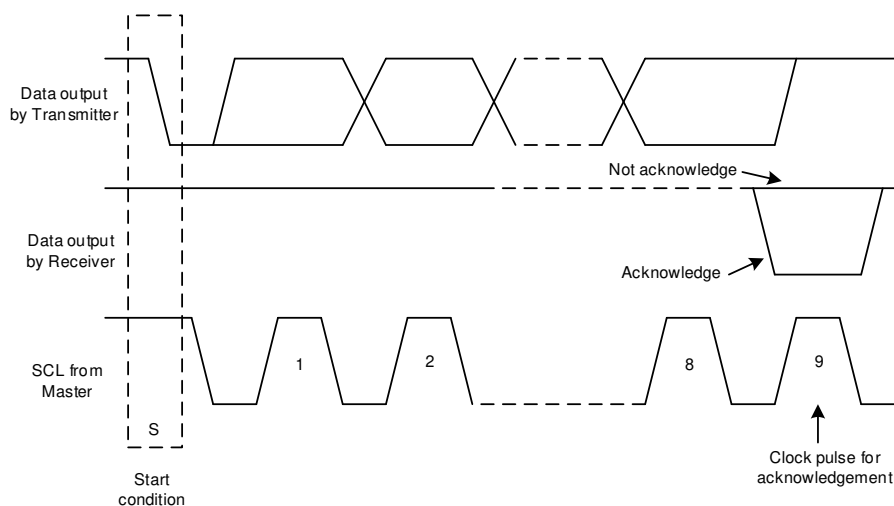
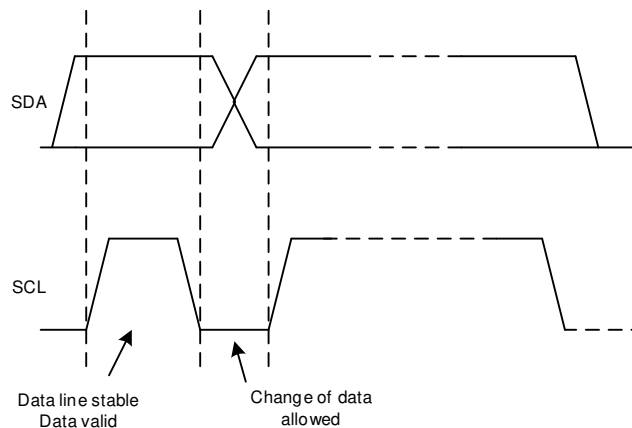

Figure 59. Acknowledge and Not Acknowledge on the I²C Bus
Figure 61. Bit Transfer on the I²C Bus
Other than specific timing signals, the I²C interface works with serial bytes. At the end of each byte, a ninth clock cycle generates and detects an acknowledge signal. Acknowledge is when the SDA line is pulled low during the high period of the ninth clock cycle. A not-acknowledge is when the SDA line is left high during the high period of the ninth clock cycle as shown in Figure 59.
2. The master then generates the SCL pulses, and transmits the 7-bit address and the read/write direction bit (R/W) on the SDA line. During all transmissions, the master makes sure that data are valid. A valid data condition requires the SDA line to be stable during the entire high period of the clock pulse, as shown in Figure 61. All devices recognize the address sent by the master and compare it to their internal fixed addresses. Only the slave device with a matching address generates an acknowledge by pulling the SDA line low during the entire high period of the ninth SCL cycle, as shown in Figure 59 by pulling the SDA line low during the entire high period of the ninth SCL cycle. Upon detecting this acknowledge, the master knows the communication link with a slave has been established.